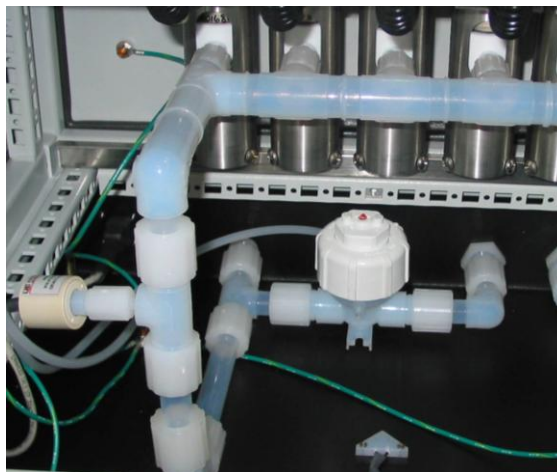

Figure 7-2: Isolation Valve
- Draining the system with out power requires manual activation of the inlet isolation valve by pressing the red button (see Figure 7-2: Isolation Valve).